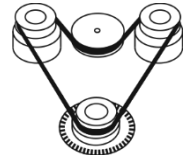

Fig. 5. Rubber belt replacement
- Replace the rubber belt (fig. 5).